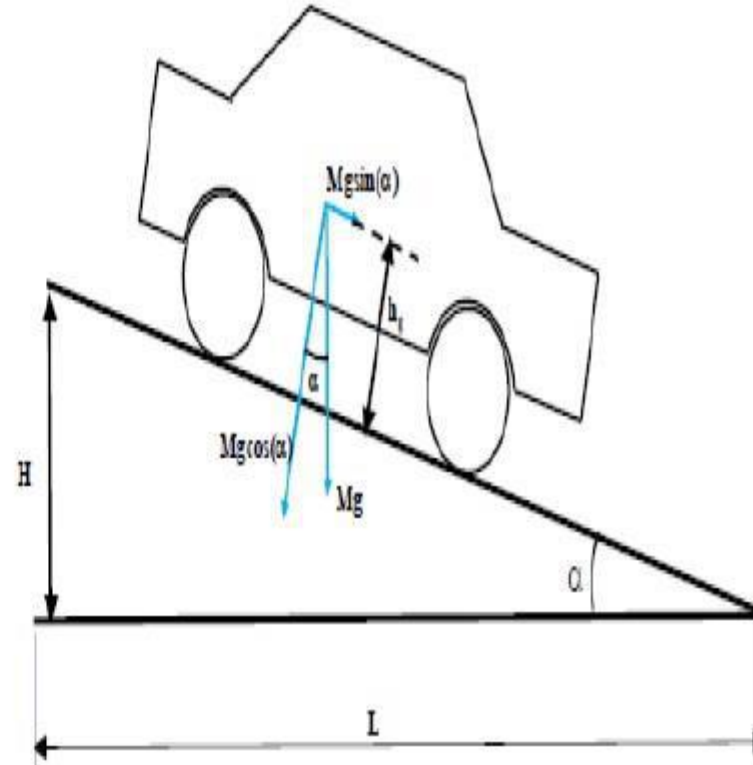

Figure 6: Vehicle going up a grade
- When a vehicle goes up or down a slope, its weight produces a component of force that is always directed downwards, **Figure 6**.
- In order to simplify the calculation, the *road angle* α , is usually replaced by the *grade value*, when the road angle is small. The grade value is defined as (**Figure 6**)